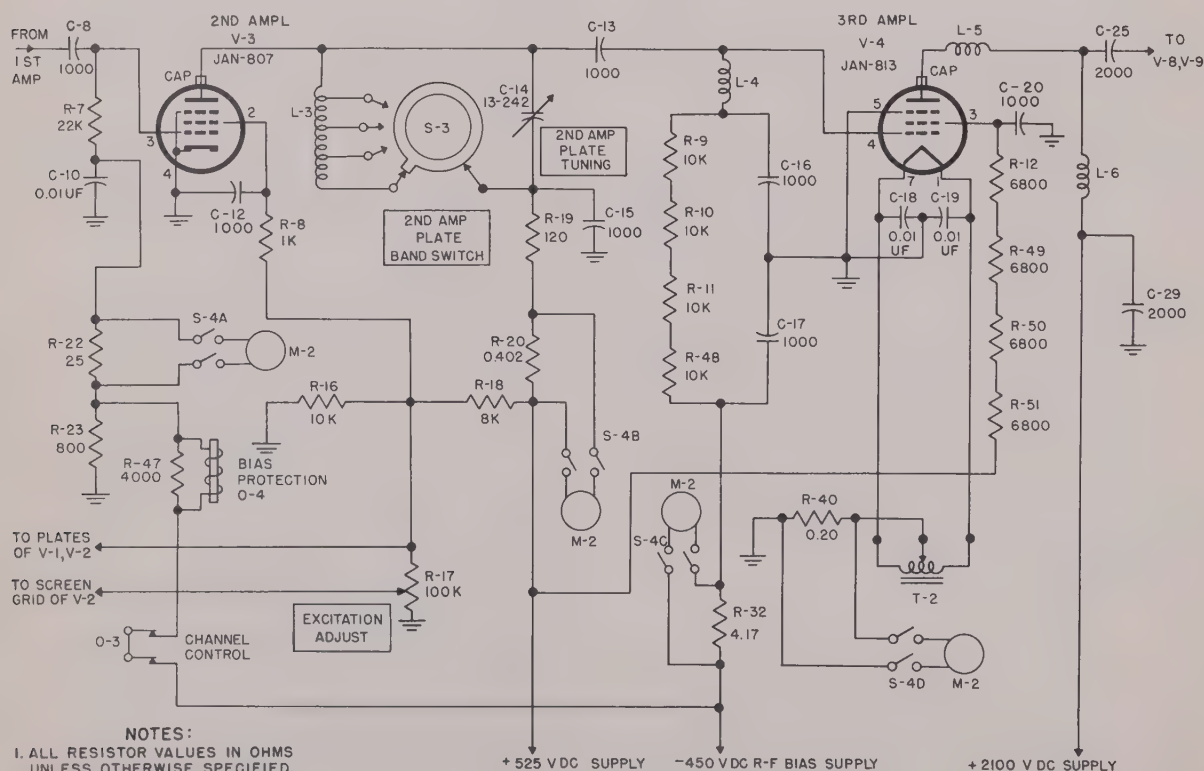

Figure 40. Radio Transmitter Model 96D, simplified schematic diagram of second and third r-f amplifier stages
54. Second R-f Amplifier (fig. 40)
55. Third R-f Amplifier (fig. 40)